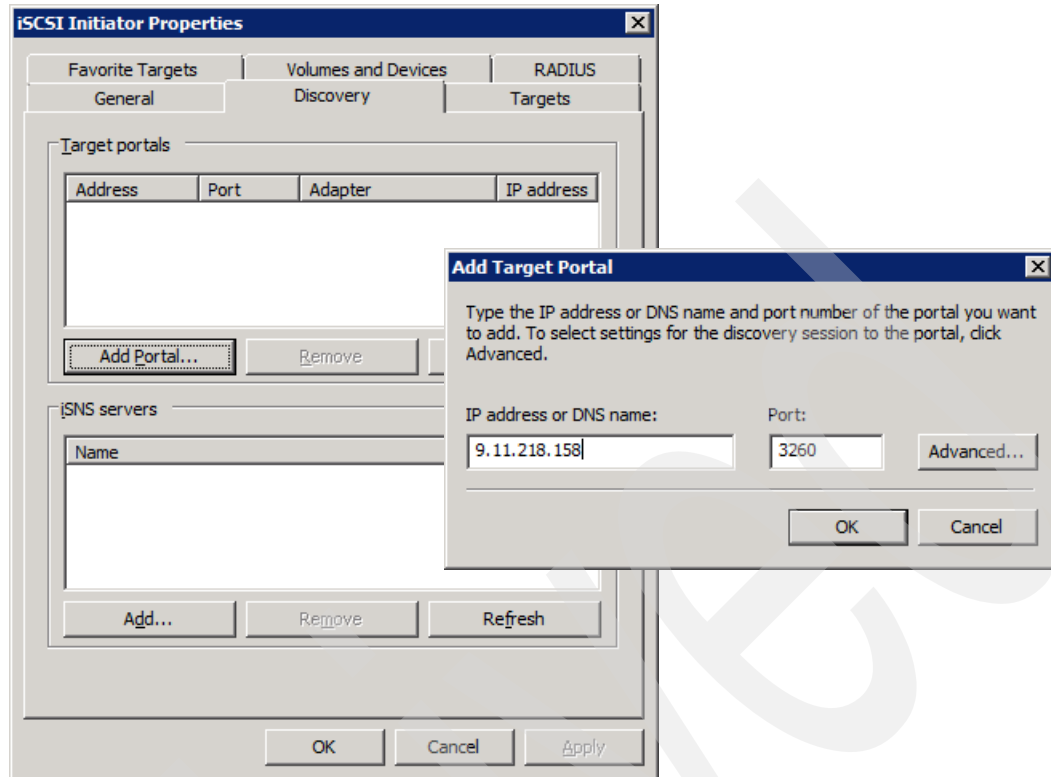

Figure 3-28 Adding target for Discovery
5. Select the **Discovery** tab and click the **Add Portal** option. Enter any of the IP addresses set to the iSCSI Host Interface ports of your DS Storage System, as shown in Figure 3-28.